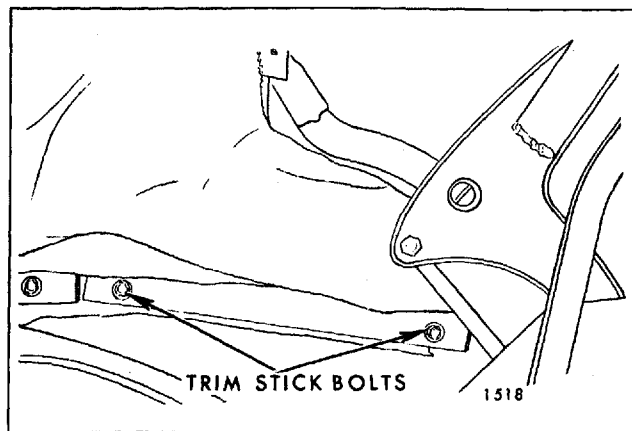

Fig. 6-47—Rear Quarter Trim Stick
5. At each rear quarter area remove attaching bolts securing rear quarter trim stick assembly to rear quarter inner panel (Fig. 6-47).